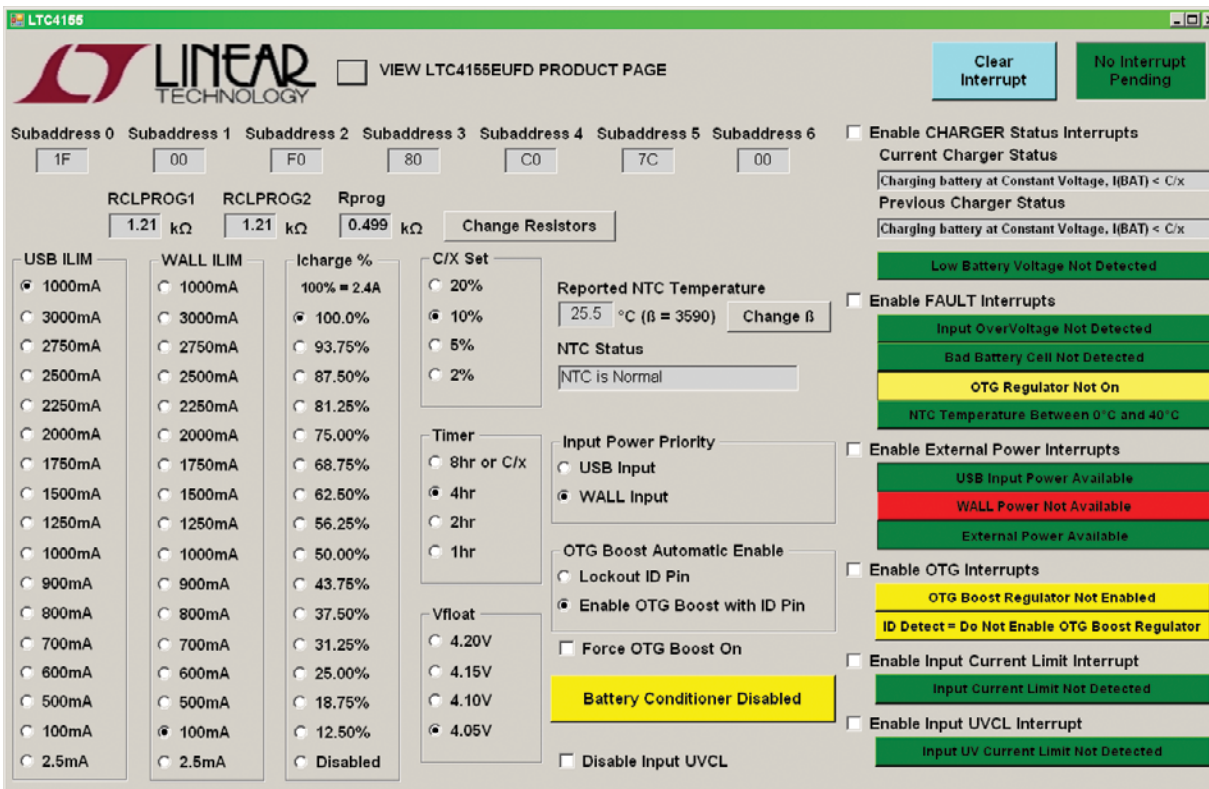
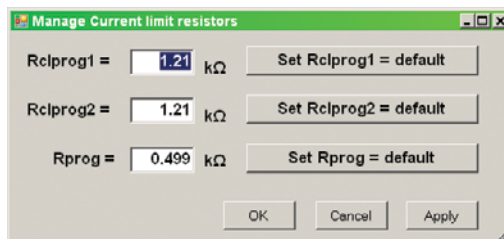

Figure 3. LTC4155 Main Form
Figure 4. Manage Current Limit Resistors Form
2. Start the Linear Technology QuickEval™ program. Download and install the latest version of the QuickEval program from the following weblink: <http://www.linear.com/designtools/software/>. This program should automatically detect the presence of the LTC4155EUFd demo board (DC1674A-A) and activate the appropriate GUI, as seen in Figure 3.
The DC1674A-A GUI is composed of three forms, the LTC4155 form (Figure 3) that is brought up by the QuickEval program, the Manage Current Limit Resistors form (Figure 4), that is brought up by pressing the “Change Resistors” button on the LTC4155 form, and the Manage β Value form (Figure 5) that is brought up by pressing the “Change β ” button on the LTC4155 form.